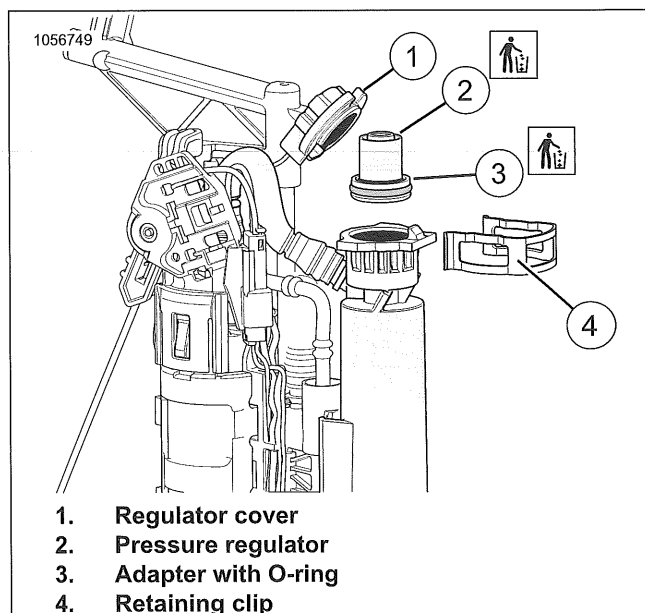

Figure 6-22. Pressure Regulator
1. See Figure 6-22. Remove regulator cover.
- a. Remove regulator cover retaining clip (4).
- b. Remove regulator cover (1).
2. Discard pressure regulator (2) and adapter with O-ring (3).
1. See Figure 6-22 Install **new** pressure regulator (2) and adapter with O-ring (3).
- a. Install regulator cover (1).
- b. Install regulator cover retaining clip (4).